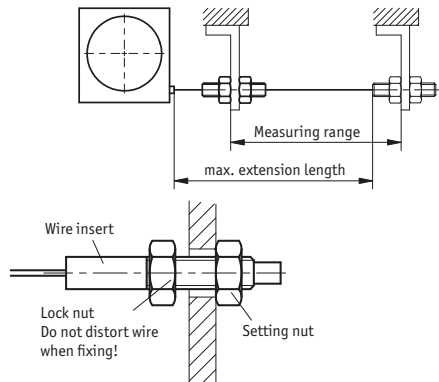

Fig. 2: Extension length check
Pull out the wire perpendicular to the wire outlet (see fig. 2).
- Use the eight elongated holes for fixing the unit to the mounting surface (1).
- After fixing the wire-actuated encoder, check the maximum extension length (see fig. 2). Pull the wire's end piece (wire insert, lock nut and setting nut) or the wire to the intended fixing point. Do not distort the wire!